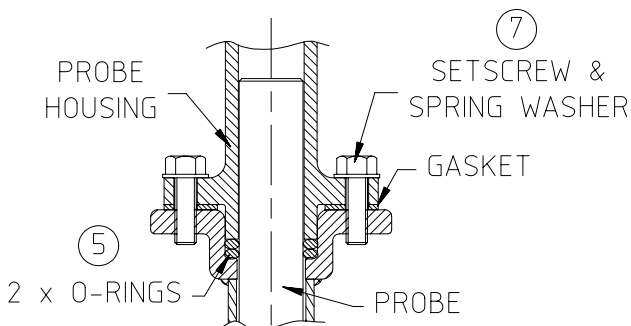

Figure 2
5. Insert 2 o-rings into probe mounting recess, sit gasket on top, then insert probe/extension assembly through the o-rings and down into the protective tube (See Fig 2).